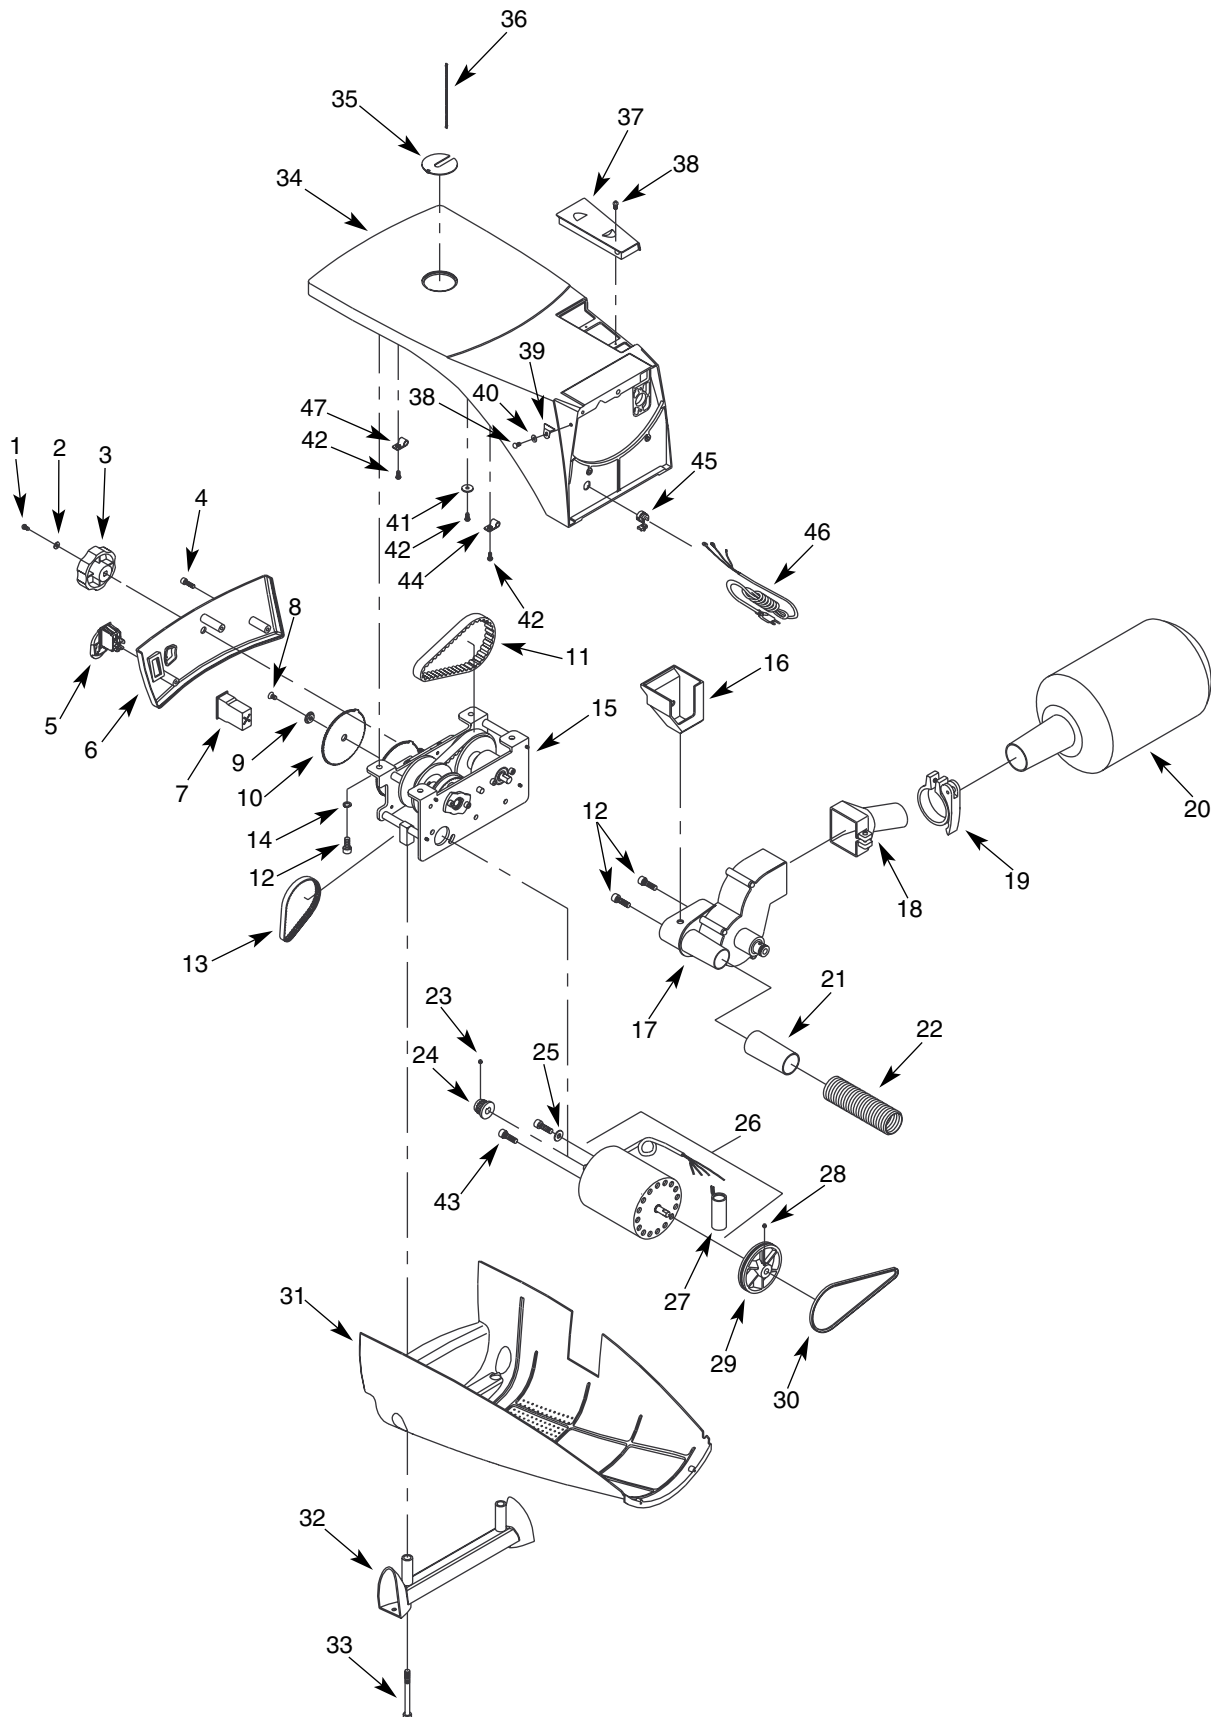

Figure 18 - Replacement Parts Illustration for Base
- Remove screw, washer and speed control knob (Fig. 18, Key Nos. 1, 2 and 3).
- Remove three bolts from front panel (Fig. 18, Key Nos. 4 and 6).
- Carefully pull front panel out and slide dust boot off switch (Fig. 18, Key Nos. 5 and 7). Disconnect wires from switch.
- Remove two bolts (Fig. 18, Key No. 33). Remove the foot and bottom cover (Fig. 18, Key Nos. 31 and 32).
- The fan belt (Fig. 18, Key No. 30) can be removed and replaced at this time.
- Loosen two bolts and remove the blower assembly (Fig. 18, Key Nos. 12 and 17). Remove flexible tube (Fig. 18, Key No. 22) from blower assembly.
- Loosen two bolts and remove motor assembly (Fig. 18, Key Nos. 23-29).
- Remove four bolts and vari-speed pulley assembly (Fig. 18, Key Nos. 12 and 15).